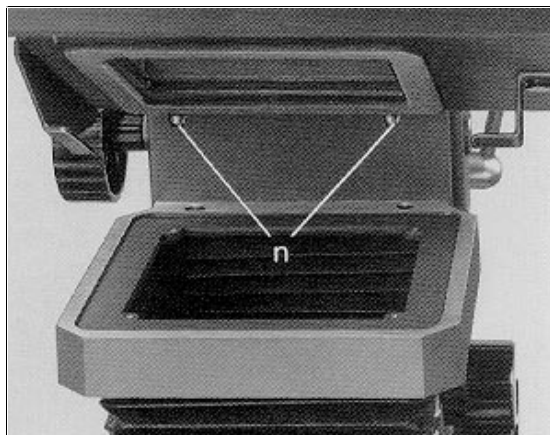

Figure 2-20. Sliding Head Orientation
- a. Note the orientation of the sliding head. The pins (n, figure 2-20) fit into corresponding holes in the camera body.